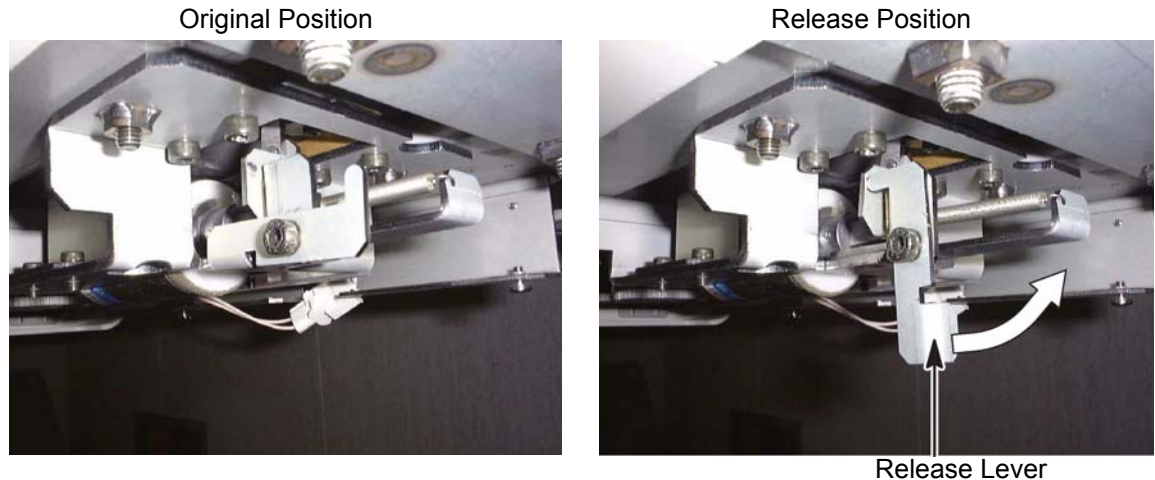

Figure 1-44 Release the Cradle
- 2.) Release a latch by pushing a bracket to move the cradle by hands. See Figure 1-44.